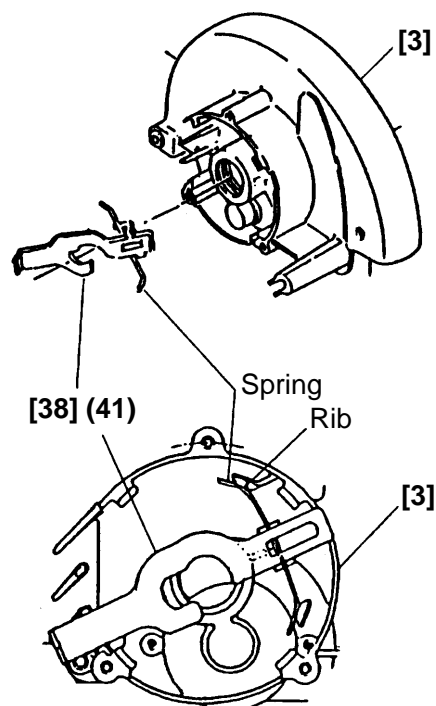

Fig. 7
### (3) Reassembly of the Lock Lever [38] (41) (See Fig. 7)
- Position the Lock Lever [38] (41) between the fan and the 6001VVCMP52L Ball Bearing [39] (42) of the Armature [37] (40), and carefully assemble it together with the Armature [37] (40) into the Gear Cover Ass'y [3].
- Ensure that both ends of the Spring on the Lock Lever [38] (41) are properly supported inside the ribs of the Gear Cover Ass'y [3].
- After assembly of the Lock Lever [38] (41) has been completed (when the Gear Cover Ass'y [3] is assembled to the Housing Ass'y [28] (30) and fastened with the M5 x 45 Machine Screws [25] (27)), push the Lock Lever by hand and ensure that it returns to its original position when released.